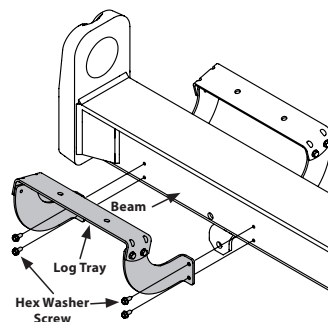

Figure 8
18. Reattach the log tray to the control valve side of the beam, aligning the holes in the tray with the holes in the beam and re-installing the hardware removed in Step 15. See Figure 8.